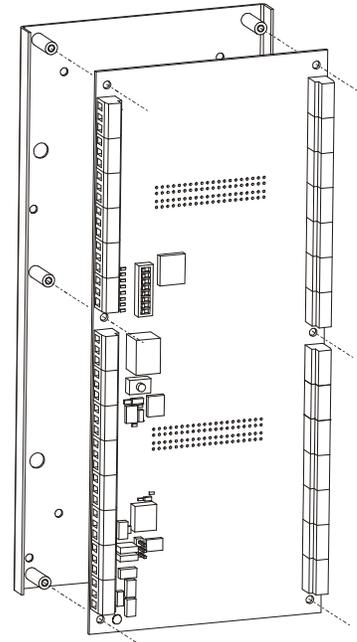

Fig.4 Installation of PCB
3. Install PCB board on the metal board (refer to Fig. 4).